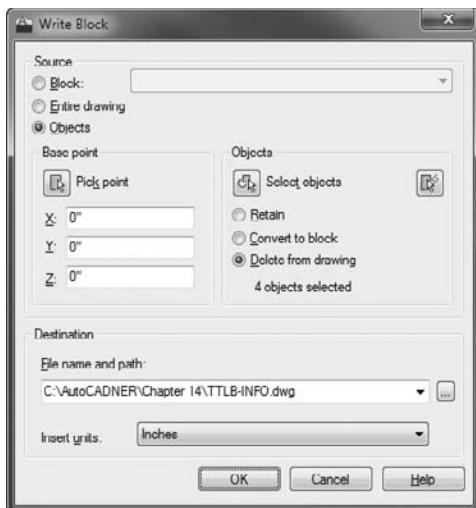

FIGURE 14.14 Defining the TTLB-INFO block unit in the Write Block dialog box
8. When you're finished, the Write Block dialog box should look like Figure 14.14. Click the OK button to create the TTLB-INFO.dwg file.